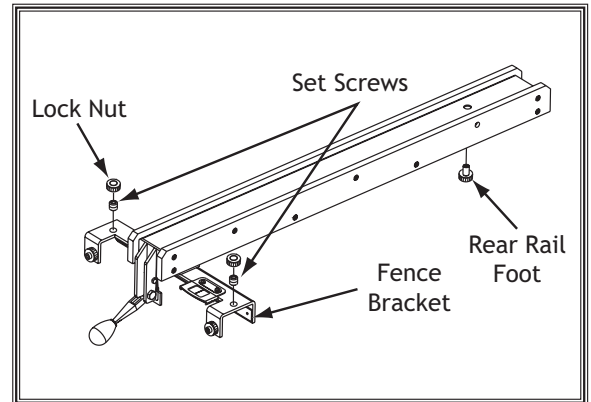

Figure 106. Fence components used to adjust fence height and squareness to table.
3. Adjust the set screws (see **Figure 106**) on top of the fence bracket to ensure the fence face is 90° to the table, then tighten the knurled lock nuts.
5. Adjust the fence height with the rear rail foot until the gap between the table and the fence is approximately 1/16" and even from the front of the table to the back. **Note:** If the front end of the fence needs to be adjusted up or down, use the set screws from **Figure 106**; turn them in even increments and recheck the squareness afterwards.